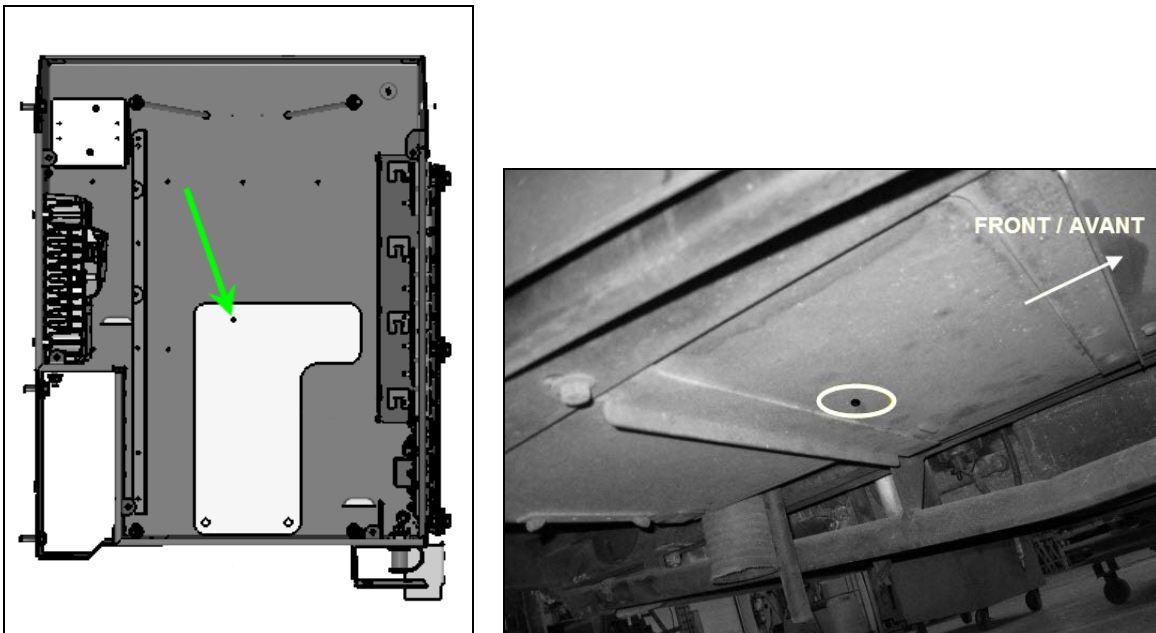

Fig.5 Drilling position viewed from top (Left) and bottom (Right) of the vehicle.
7. With the drilling template installed, drill through the box bottom using a 3/8po or 10mm drill bit (Fig.5).